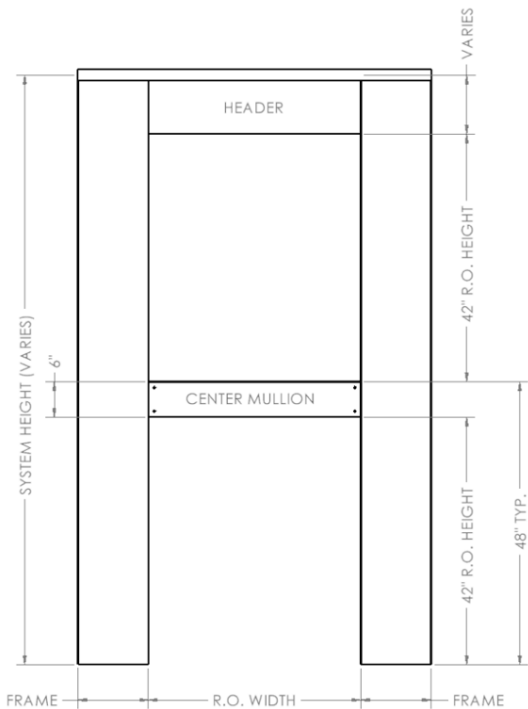

figure 6
- ✦ Measure the rough openings and ensure they match the size of the locker doors on the order. **See Figure 6.**